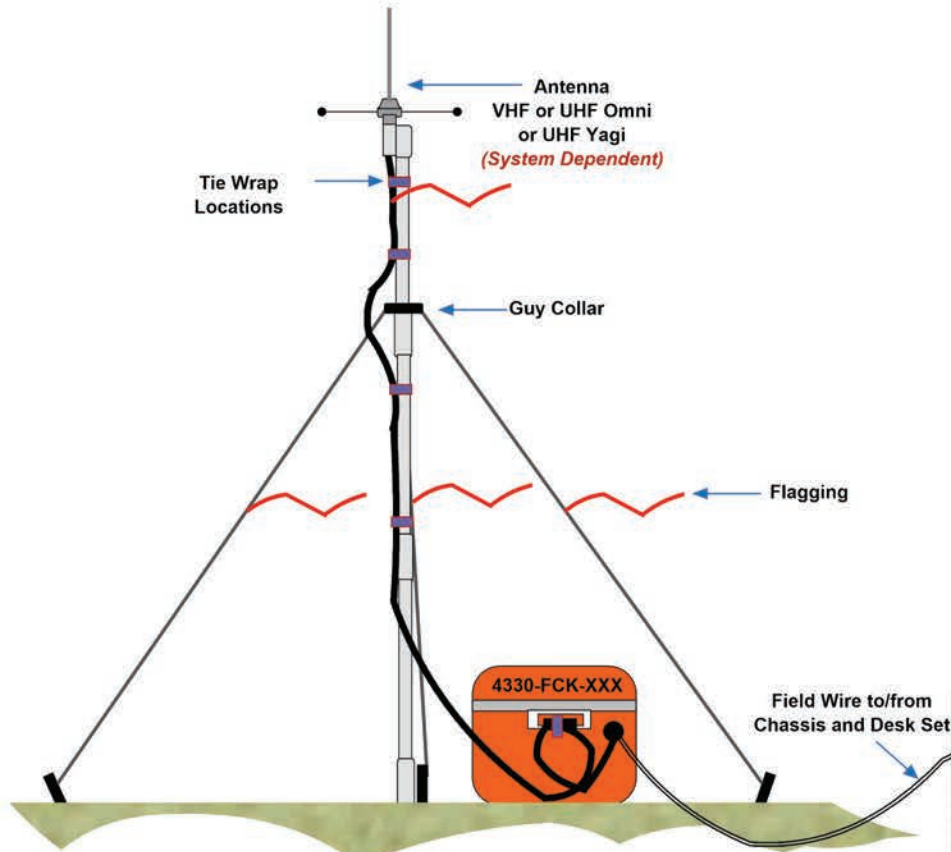

Figure 1:
4. Field Wire Setup: (See Figure 1, 2 and 3)